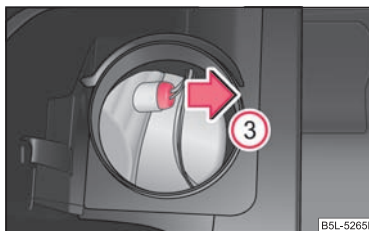

Fig. 190 Removing the fixture for the parking light (Xenon headlight)
- Pull out the fixture in direction of arrow ③ ⇒ fig. 190.